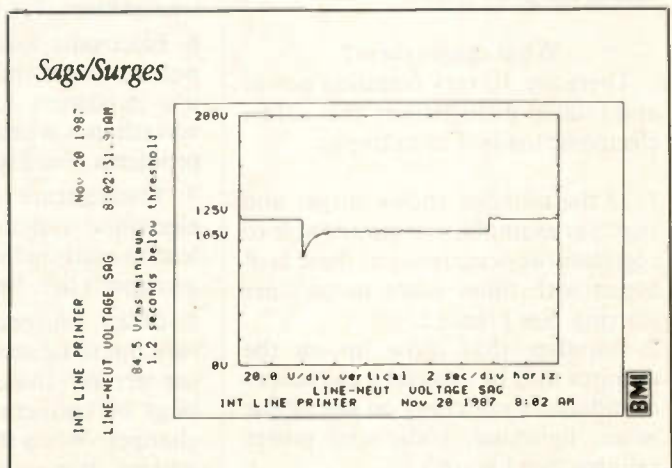

Figure 2.
1. If the monitor shows surges and sags, for example, you may be able to correlate the occurrence of these problems with times when motors are starting. See Figure 2.